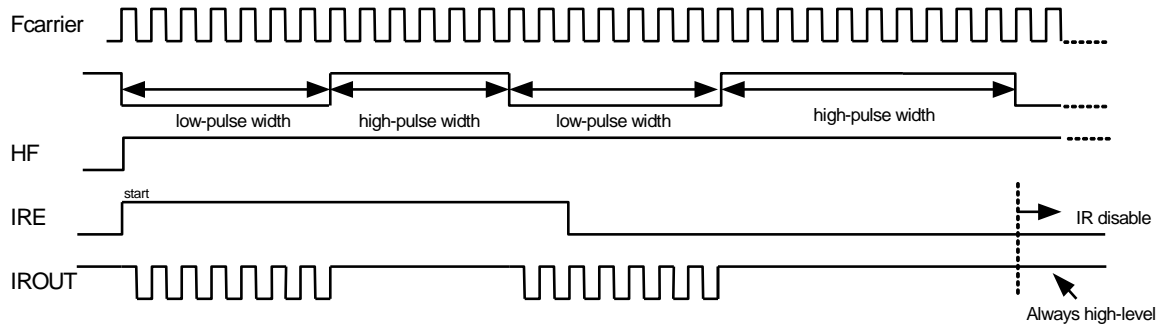

Figure 6-23 LGP=0, IROUT Pin Output Waveform
**Figure 6-23** LGP=0, HF=1, the IROUT waveform can modulate Fcarrier waveform when in low-pulse width time. When IRE goes from high to low, the output waveform of IROUT will keep on transmitting until high-pulse width timer interrupt occurs.